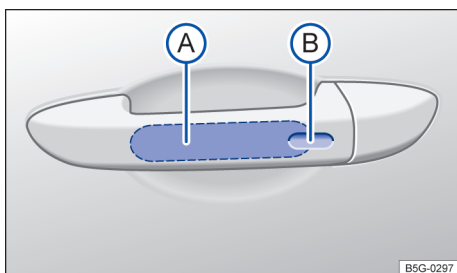

Fig. 51 Keyless Access system: Unlocking and locking sensors on the outside door handle.
Key to fig. 51:
- Grasp the door handle of the driver or front passenger door so that you touch the unlocking sensor surface → fig. 51 **A**.
- Touch the lock sensor surface in the door handle on the driver or front passenger door → fig. 51 **B** *one time*. The vehicle is locked. The door being locked must be closed.
- Within 5 seconds, touch the lock sensor surface on the door handle on the driver or front passenger door → fig. 51 **B**.
To use the convenience closing feature to close all power windows and the power sunroof, hold your finger on the lock sensor surface on the outside of the door handle → fig. 51 **B** for a few seconds until the windows and the power sunroof close.